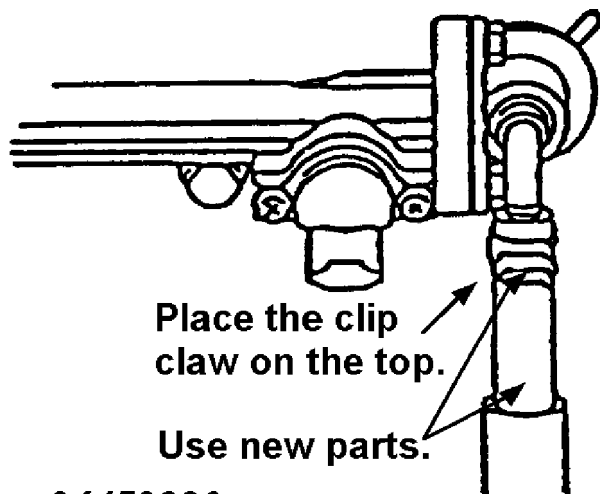

Fig. 57: Return Side of Secondary Fuel Distributor Hose Replacement
29. Replace the fuel hose on the return side of the secondary fuel distributor with a new one. See Fig. 57.
\* For the direction of the clip claws, see Fig. 57.